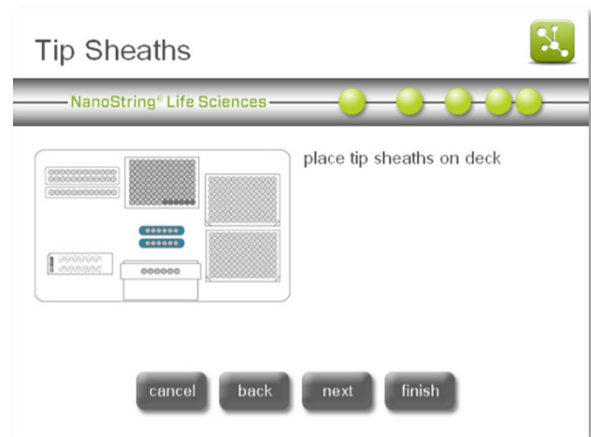

Figure 23: The 'Tip Sheaths' screen.
9. The 'Tip Sheaths' screen will appear (**Figure 23**).